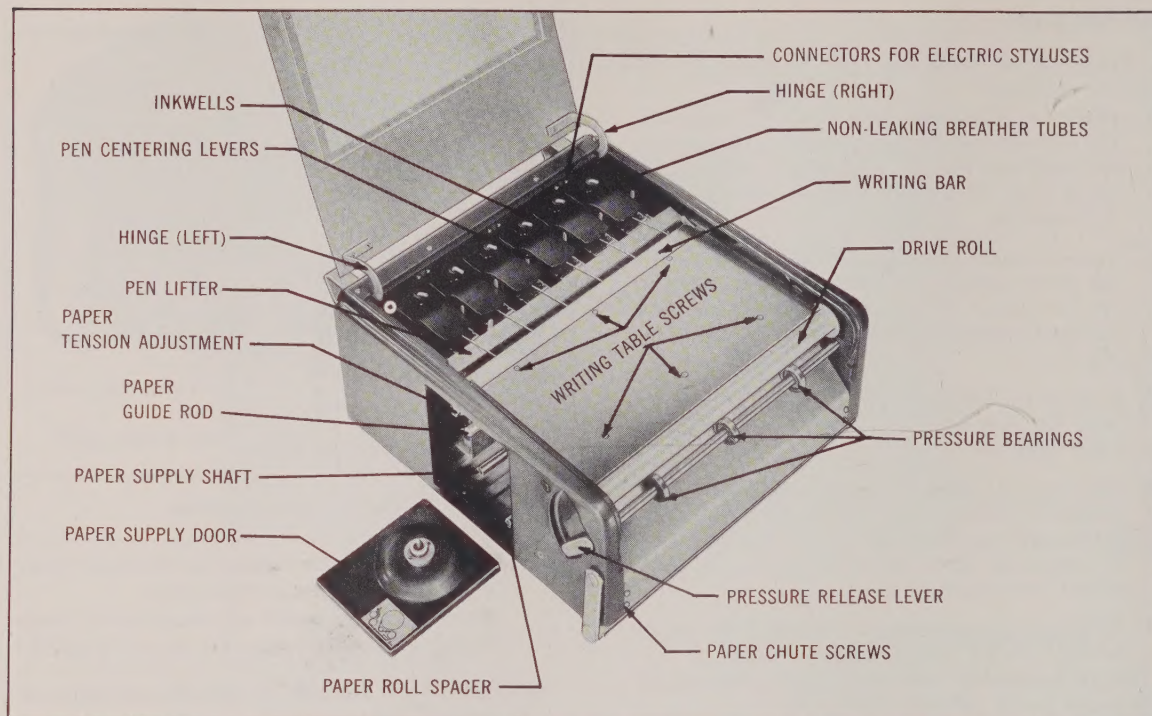

Fig. 4. General View—Indicating Various Parts
1. Remove the PAPER SUPPLY DOOR. Fig. 4.
4. Lift the pens or styluses with the PEN LIFTER. Fig. 4.
5. Slip the new supply of chart paper over the PAPER SUPPLY SHAFT as shown. Fig. 4. (If a paper core from a previous supply is on the PAPER SUPPLY SHAFT, remove and discard it.) Do not press the new paper supply forcibly against the Paper Centering Collar as this will force the roll into a conical shape which may prevent the chart paper from unwinding in proper alignment.
7. Release the tension on the PRESSURE BEARINGS (Fig. 4 and 5) by means of the PRESSURE RELEASE LEVER. Fig. 4.
8. Pull the chart paper over the writing table and DRIVE ROLL. Fig. 4 and 5.
2. Remove the socket-head screw and lockwasher on the control side of the oscillograph, holding the PAPER GUIDE ROD. Fig. 4. In withdrawing the PAPER GUIDE ROD note the inside lockwasher between the PAPER GUIDE ROD and the inside of the side casting.
2. With a screwdriver hold the slot of the PAPER TENSION ADJUSTMENT to prevent its turning. Fig. 4.